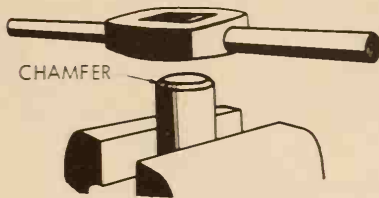

Fig. 4-90. The die will start more easily if the end is chamfered.
1. Chamfer the end of the stock, Fig. 4-90. The chamfer can be cut with a file or on a grinder.